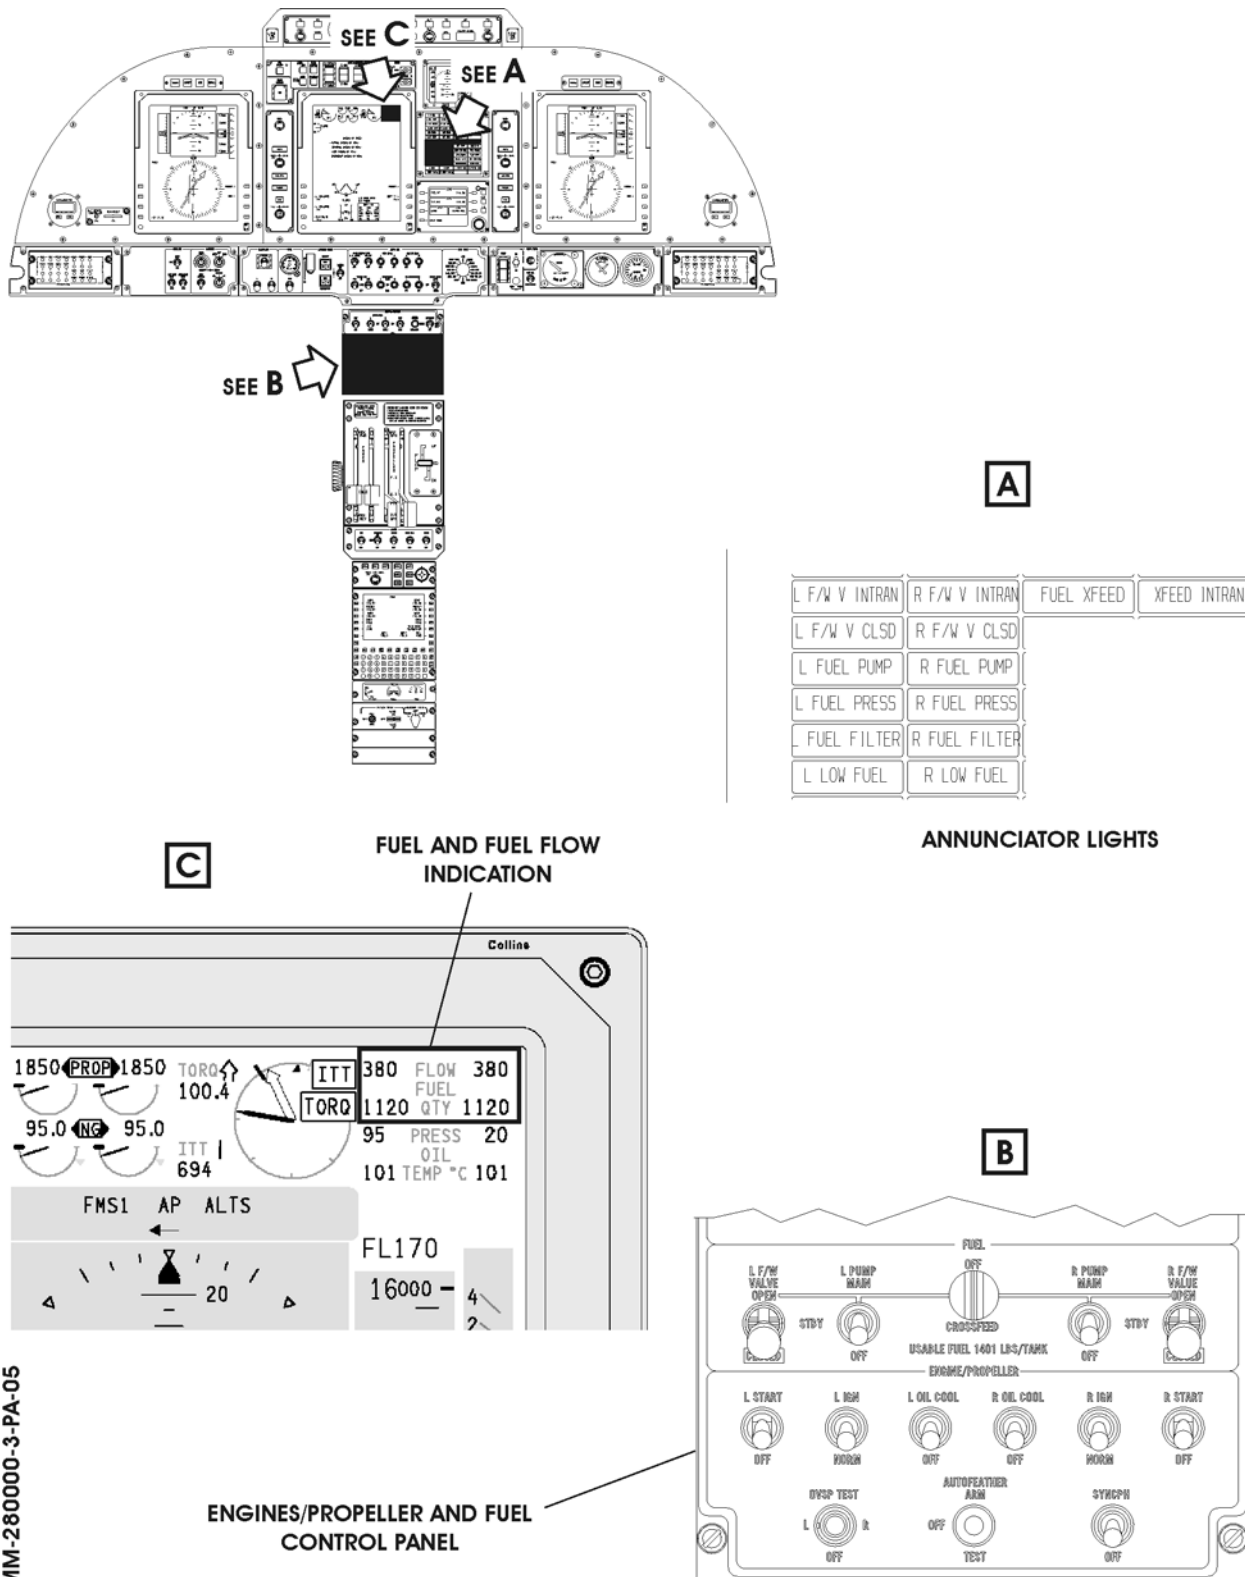

Fig. 3 - Fuel - Control and Indication
4. Control and Indication (Ref. Fig. 3)